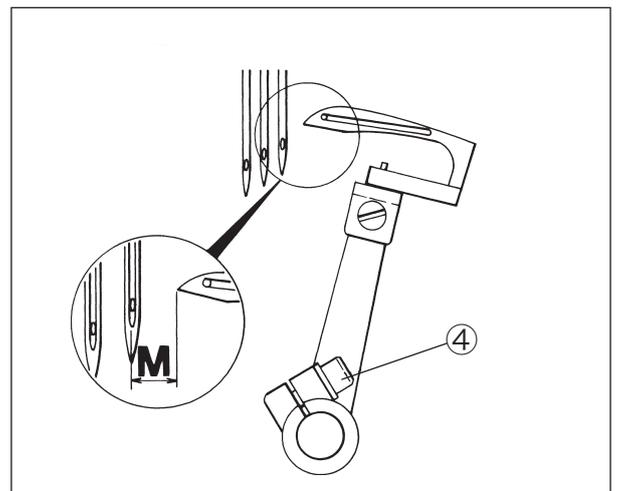

Fig. 6-13
Then, tighten the screw ④ securely. (Fig. 6-13)